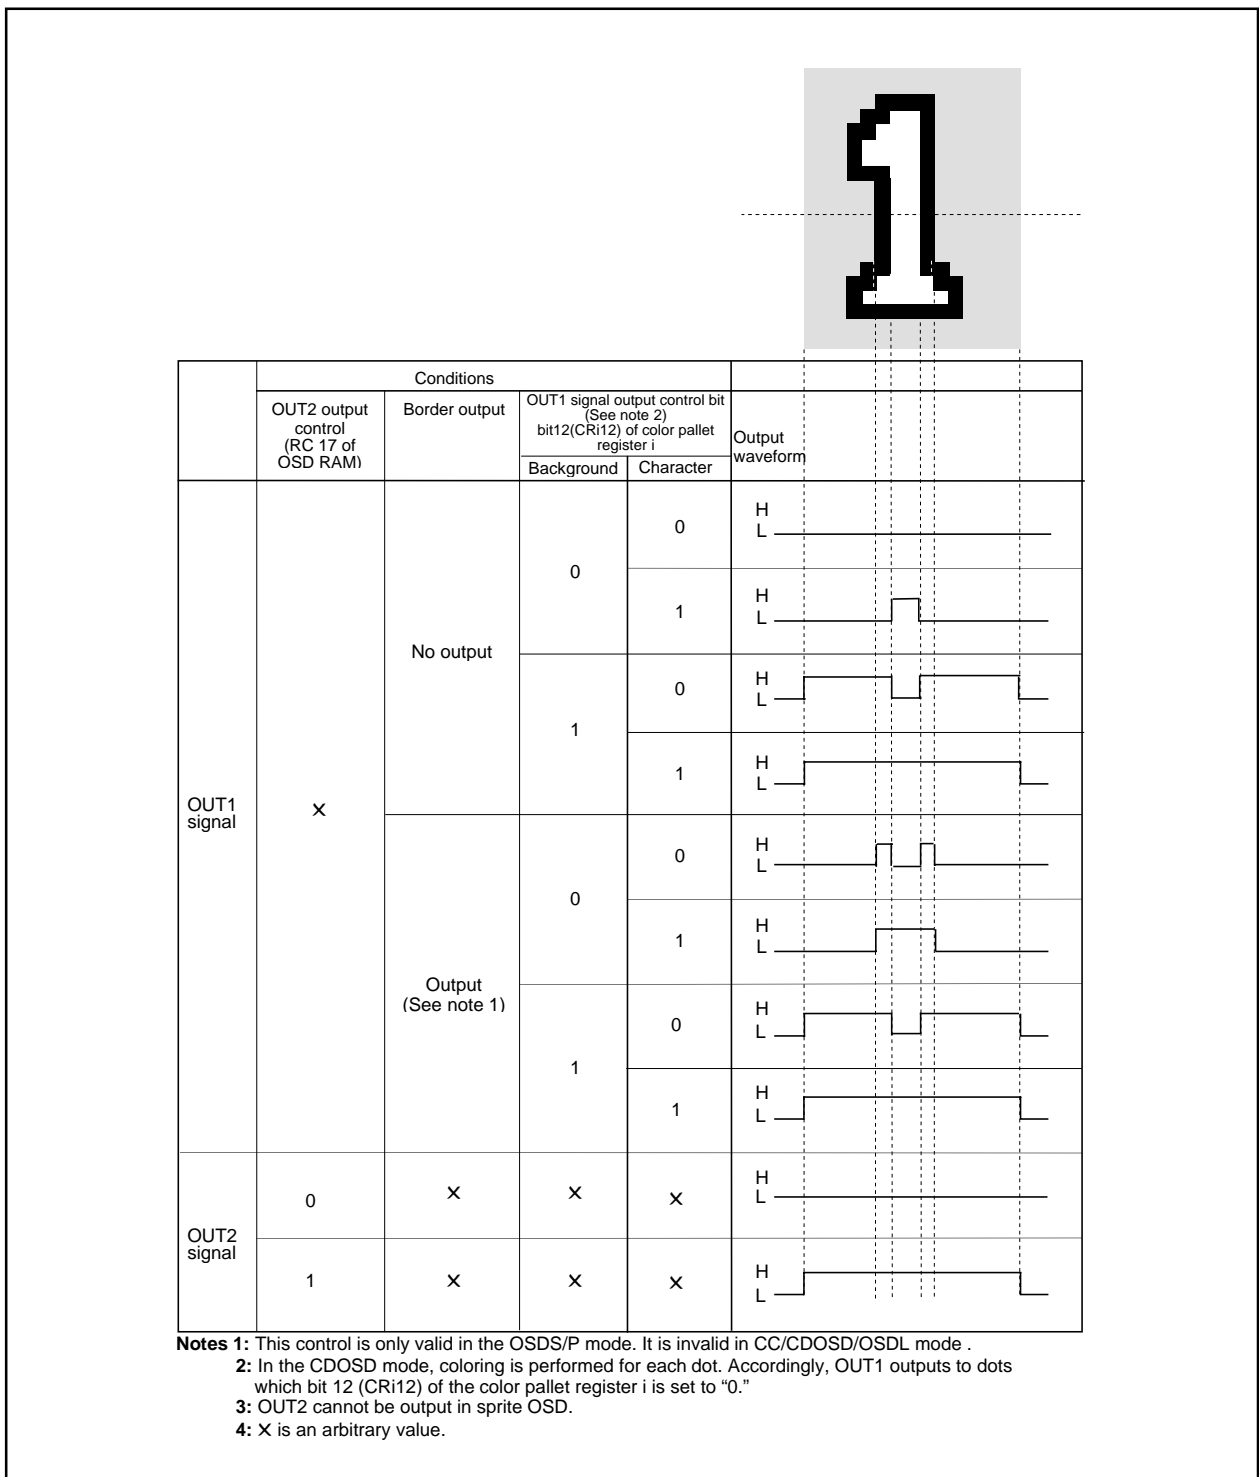

Figure 2.16.30 Setting value for controlling OUT1, OUT2 and corresponding output waveform
The OUT1, OUT2 signals are used to control the luminance of the video signal. The output waveform of the OUT1, OUT2 signals is controlled by bit 6 of the color palette register i (refer to Figure 2.16.29), bits 0 to 2 of the block control register i (refer to Figure 2.16.4) and RC17 of OSD RAM. The setting values for controlling OUT1, OUT2 and the corresponding output waveform is shown in Figure 2.16.30.
The display example attribute is shown in Figure 2.16.30. In this case, "R" is displayed.
**4:** When the pre-divide ratio = 1, the italic character with slant of 1 dot X 5 steps is displayed ; when the pre-divide ratio = 2, the italic character with slant of 1/2 dot X 10 steps is displayed (refer to Figure 2.16.30 (c), (d)). However, when displaying the italic character with the pre-divide ratio = 1, set the OSD clock frequency to 11 MHz to 14 MHz.